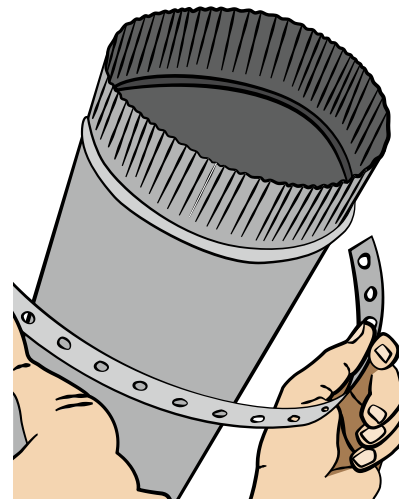

FIG. 10d
- Raise ductwork into place and grab the open end of the Hanger Strap, pulling it against the pipe and securing it to the wall/ceiling [FIG. 10d].